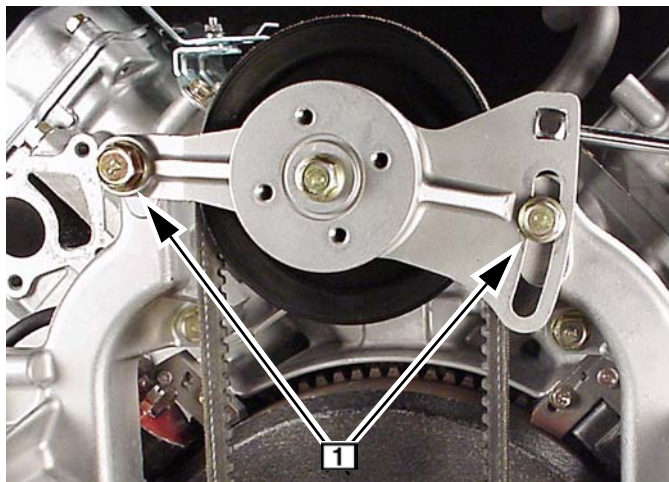

Fig. 41
6. Remove fan adjustment bracket **1**, Fig. 41.